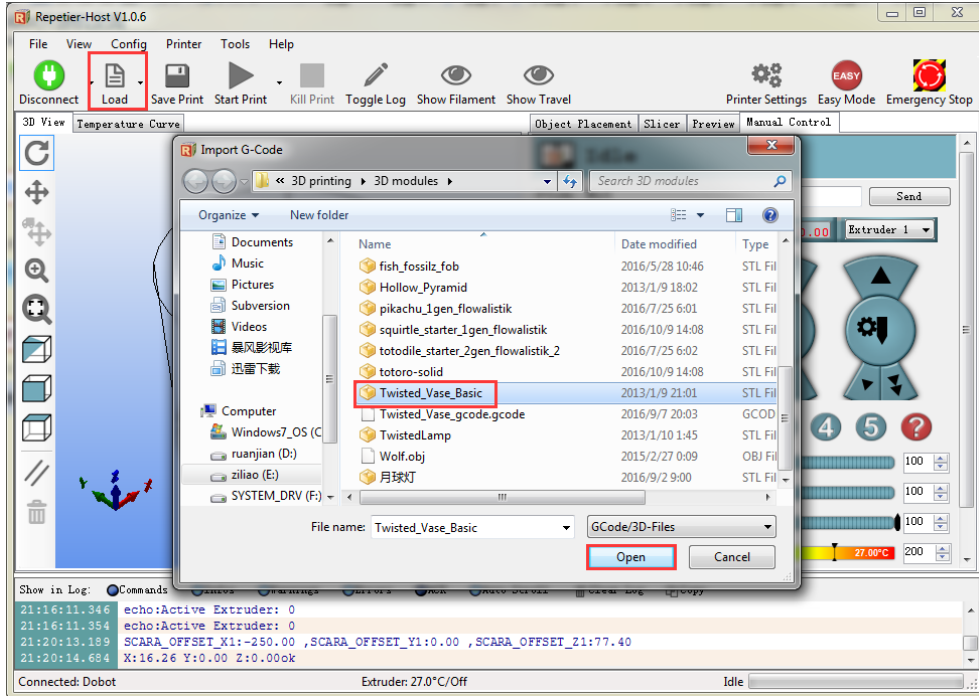

Figure 5.138 Import 3D printing Model
Step 5 Click **Load** to import the prepared 3D printing model, as shown in Figure 5.138. You can also load 3D printing model which are DobotStudio, the loading path is